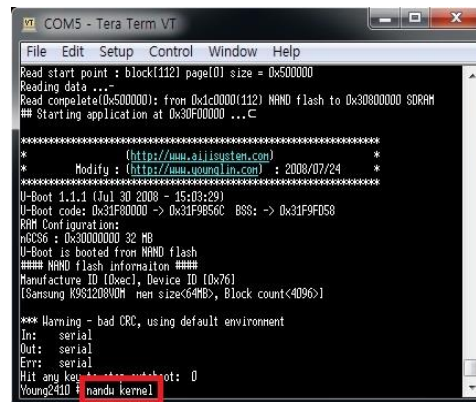

Figure 12. Tera Term - 'nandw kernel' command
14. Enter the 'nandw kernel' and press 'Enter' key (see Figure 12).